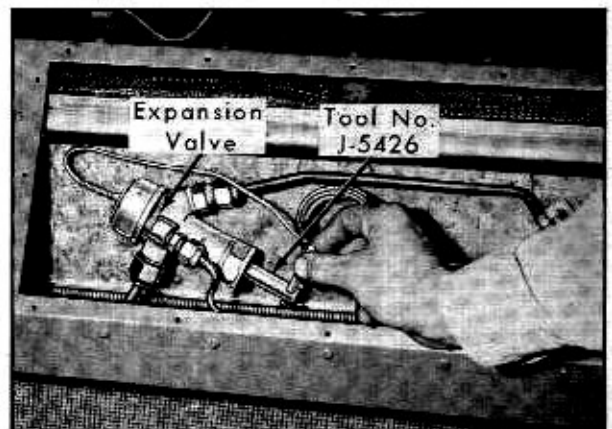

Fig. 16-A-12 Adjusting Expansion Valve
3. Using Tool No. J-5426, first CLOSE the valve completely, then OPEN (counter-clockwise) 5 complete turns. Fig. 16-A-12.